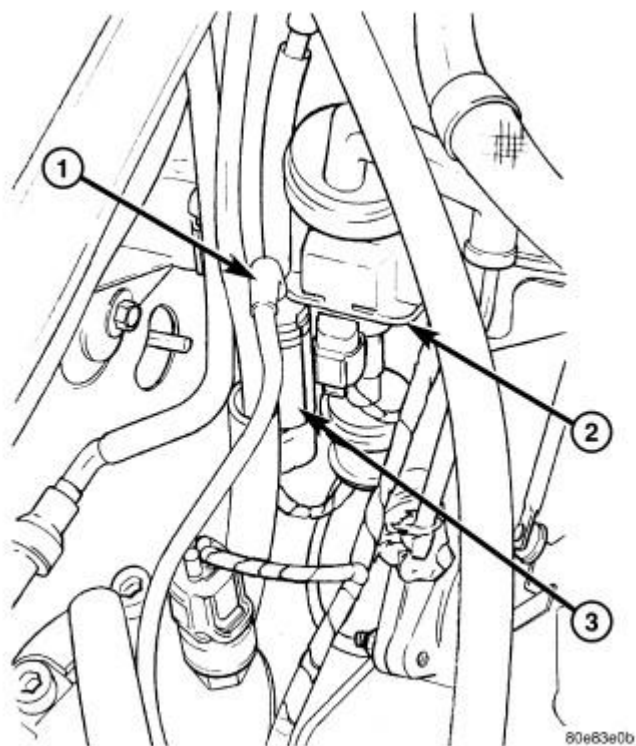

Fig. 230: SWIRL ACTUATOR SOLENOID
The swirl actuator solenoid (1) is mounted next to the coolant recovery pressure container behind the wastegate solenoid. See **Fig. 230** .